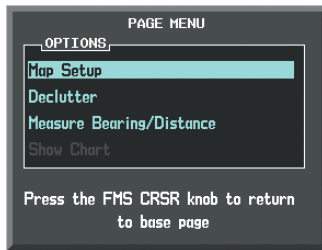

Figure 6-47 Navigation Map Page Menu
- 3) With Map Setup highlighted, press the **ENT** Key (Figure 6-47).